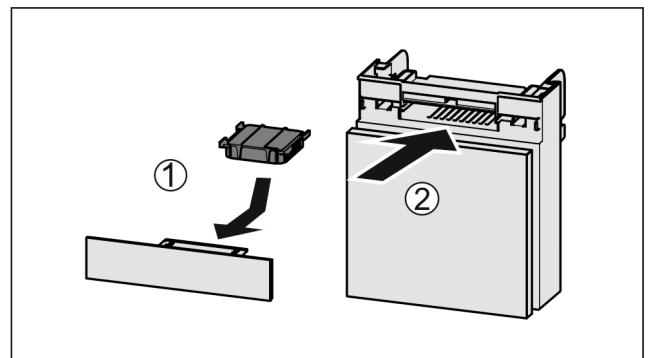

Fig. 196
- ▶ Insert the carbon filter as shown in the diagram Fig. 196 (1).
- ▶ Push the compartment in Fig. 196 (2).